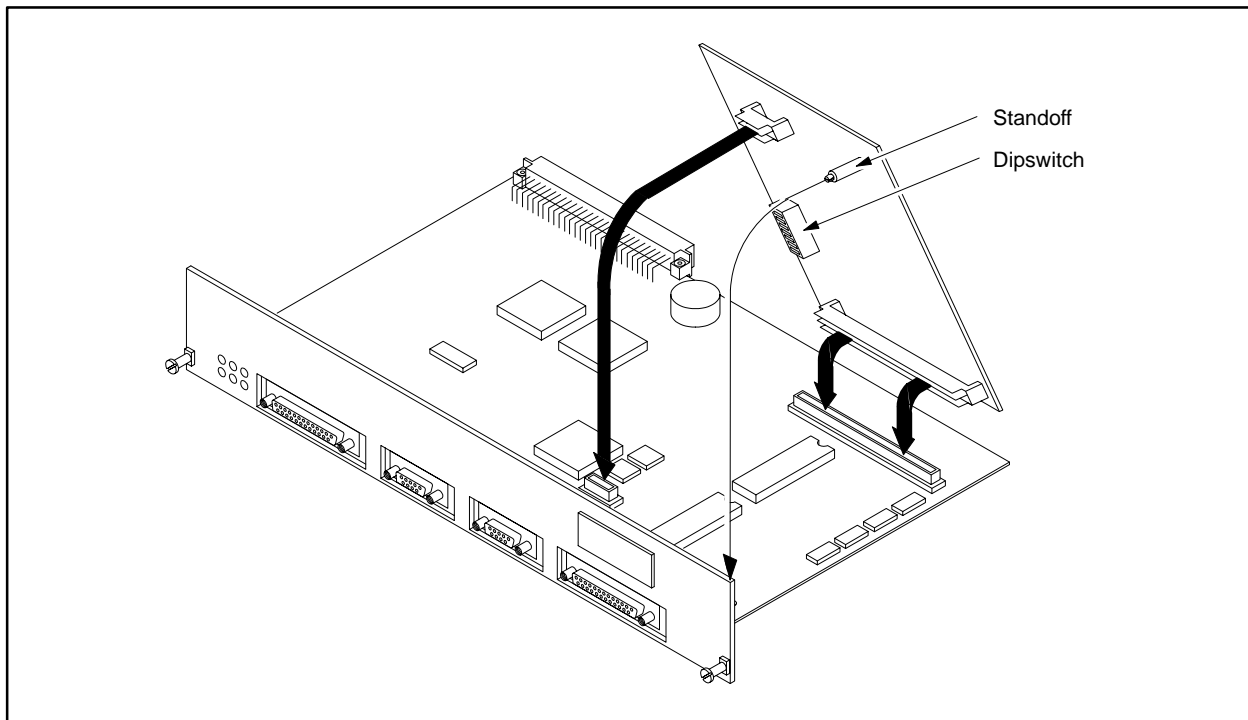
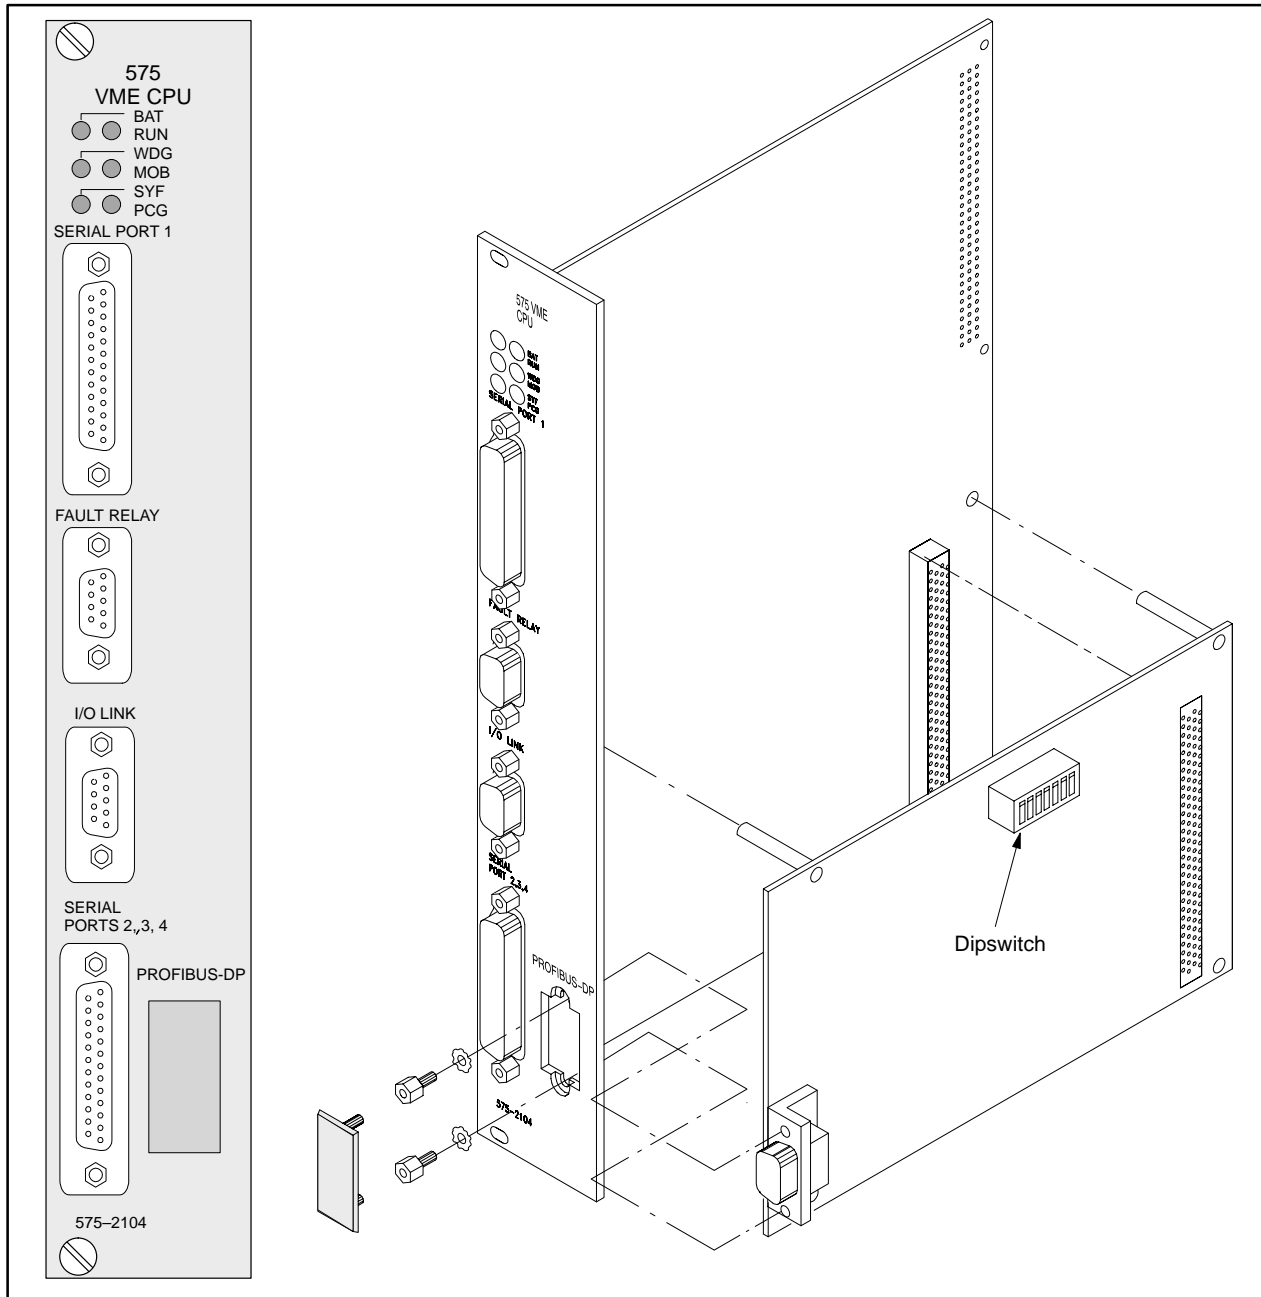

Figure 4-16 Installing the Remote I/O Annex Card
Figure 4-17 Installing the PROFIBUS-DP Annex Card
Figure 4-16 shows the location of the dipswitch on the 575-2126 annex card. Figure 4-17 shows the location of the dipswitch on the 505-CP5434-DP annex card. Table 4-3 lists the dipswitch configuration options.
Figure 4-16 shows the location of the dipswitch on the 575–2126 annex card. Figure 4-17 shows the location of the dipswitch on the 505–CP5434–DP annex card.
2. Lower the annex card directly onto the CPU board as shown in Figure 4-16, applying pressure until all connectors and standoffs are mated.